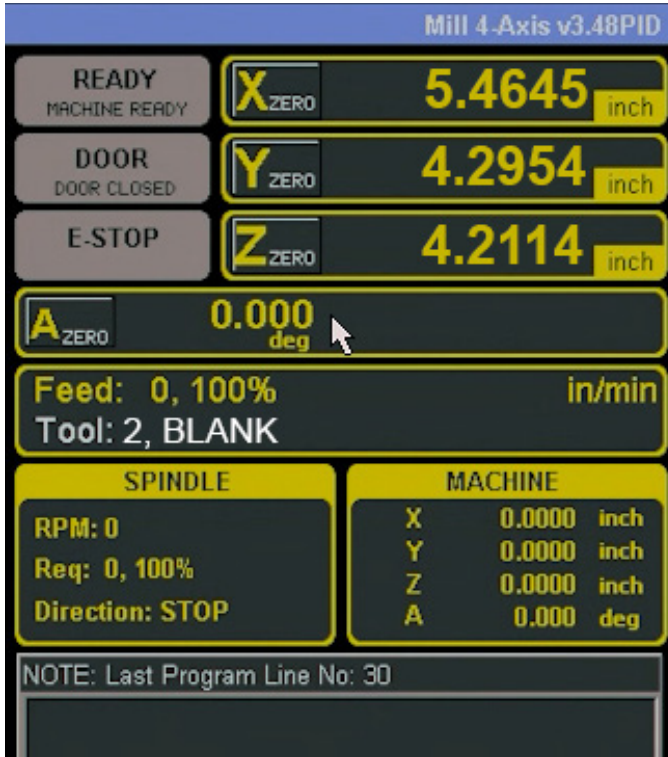

FIGURE 3—The cursor arrow is pointing to the A zero position with 0.000 degrees.
11. When you turn the controller back on, the position screen will automatically show the A-axis as “0.000 degrees” (see Figure 3). This is why you want to set the rotary table at the zero position prior to turning the controller on.